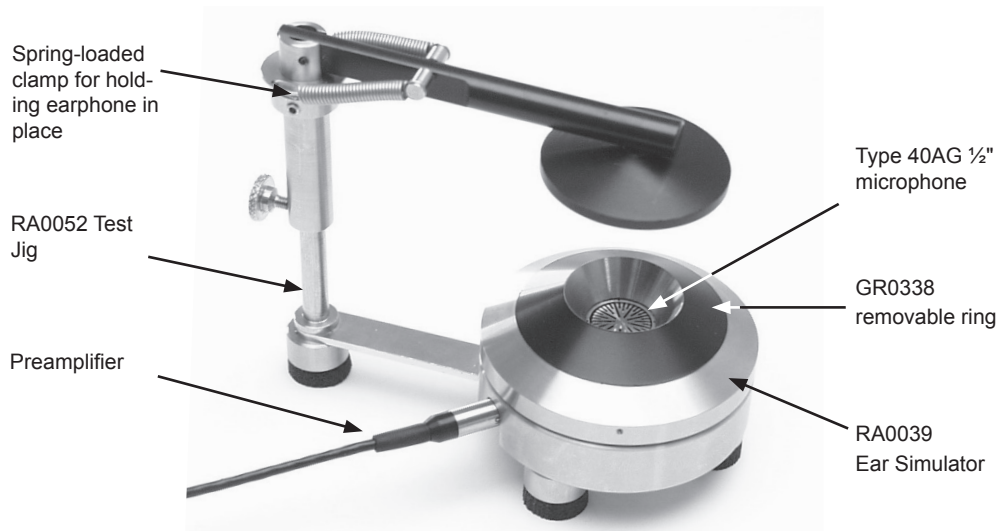

Fig. 1.1 Assembled Artificial Ear Type 43AA
When assembled as shown in Fig. 1.1, it is ready for testing supra-aural¹ earphones such as telephone handsets and headphones. Fig. 1.9 shows an exploded view of its user-serviceable components.
- 1) Snap the spring-loaded clamp (see Fig. 1.1) to its upright position, or remove it.